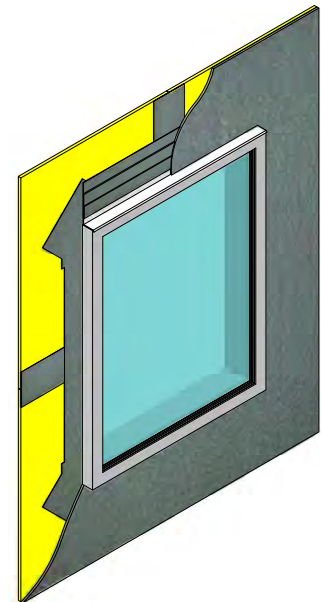

Figure 17
13. Apply ACROSTOP-R per the product bulletin instructions over the substrate. (See Figure 17)